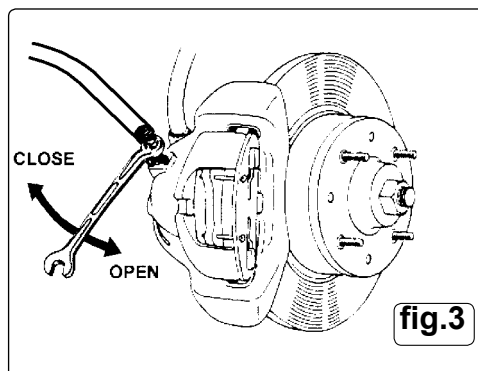

fig.3
- 3.2.4. Starting with the wheel furthest away from the brake fluid reservoir, connect one end of a tube from a bleed bottle to the brake nipple and, using a brake spanner, open the nipple approximately ¼ turn (fig.3), brake fluid will flow through the clear pipe into the bottle, when there are no visible bubbles in the fluid, tighten the bleed nipple and remove the pipe, taking care not to spill any brake fluid.